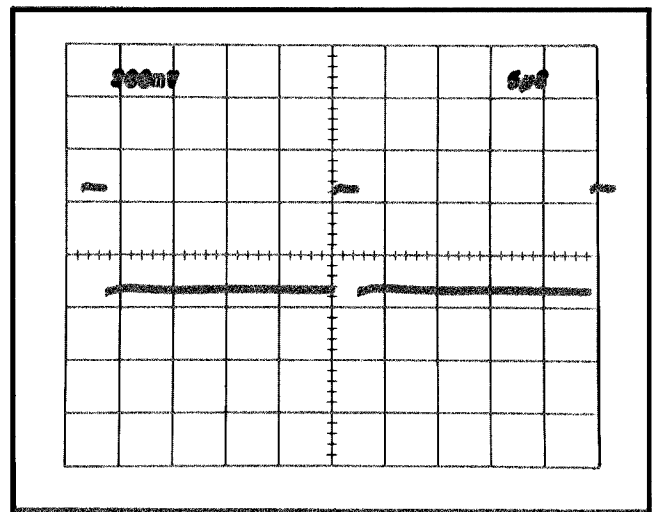

Fig. 5-16. CRT display when checking sweep holdoff time.
c. CHECK—The holdoff time is 3.5  $\mu$ s or less (see Fig. 5-16).